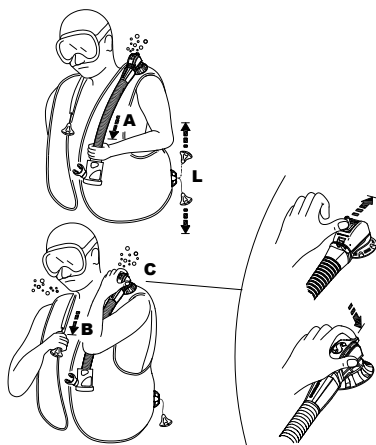

fig. 7
- a. pulling gently on the hose assembly (fig. 7 - A).
- b. pushing on the button that protrudes out of the valve casing (fig. 7 - C) (Patented): this system could be useful also to purge air of another diver having problems (panic, beginner diver, unconsciousness, etc.).
- The SCUBAPRO® Dual Manual Dump Valve (Patent) has a safety hand button that releases air when pushed (fig 7-C), in case of failure of the Manual Dump System (broken cable, pin, etc.) or while breathing from an Air 2.
### **Shoulder valve (fig. 7-B)**
The valve on the right shoulder, if present, is activated by pulling gently on the knob which is connected via a lanyard to the valve itself (fig. 7 - B). To operate either style of dump valve, orient the valve to a position higher than the air bubble in the BC. Activate the dump valve until the desired amount of buoyancy is reached. Stop pulling/pushing to close the valve (fig. 7 - B).
### **Lower Dump Valve (fig. 7 - L)**
the deflation devices with the maximum outflow of gas are the shoulder valve fig. (7-B) and the lower valve (fig 7-L).